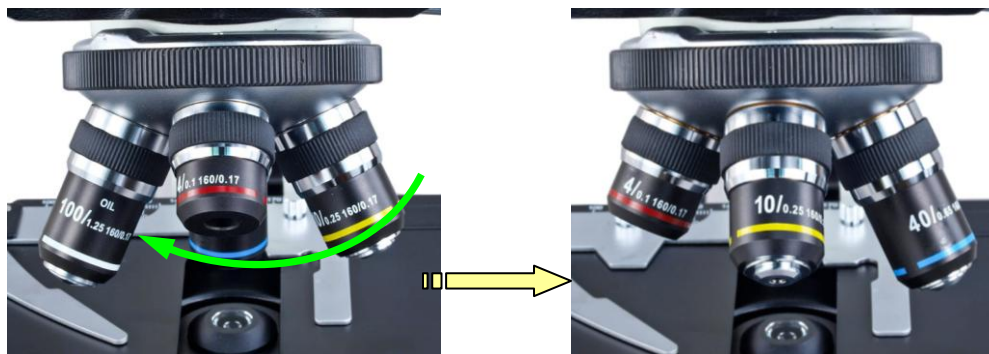

Fig.1
- 3) Take the objectives out from the plastic cases and turn each one clockwise into the holes on the nosepiece. Install the 4X objective into the nosepiece first. Then in a counter-clockwise direction, rotate the nosepiece and install each succeeding higher magnification objective as shown in **Fig. 1**.